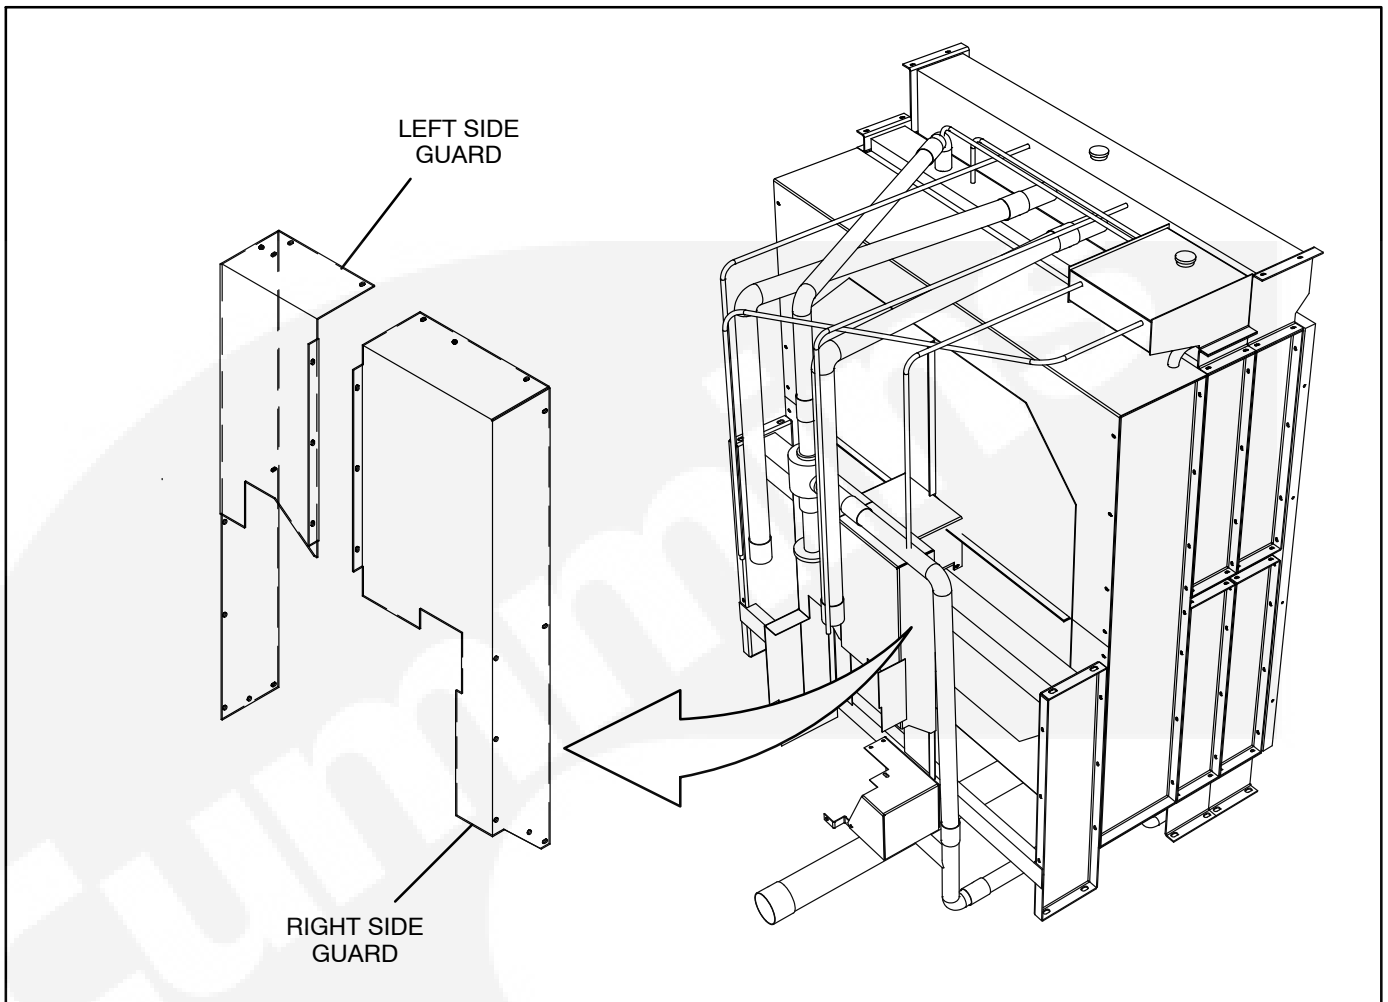

FIGURE 11-1. FAN DRIVE GUARD (LEFT/RIGHT SIDE)
3. Remove the left and right side fan drive guards (Figure 11-1) to access fan drive system.
8. Install the left and right side fan drive guards (Figure 11-1) that were removed in step 3.